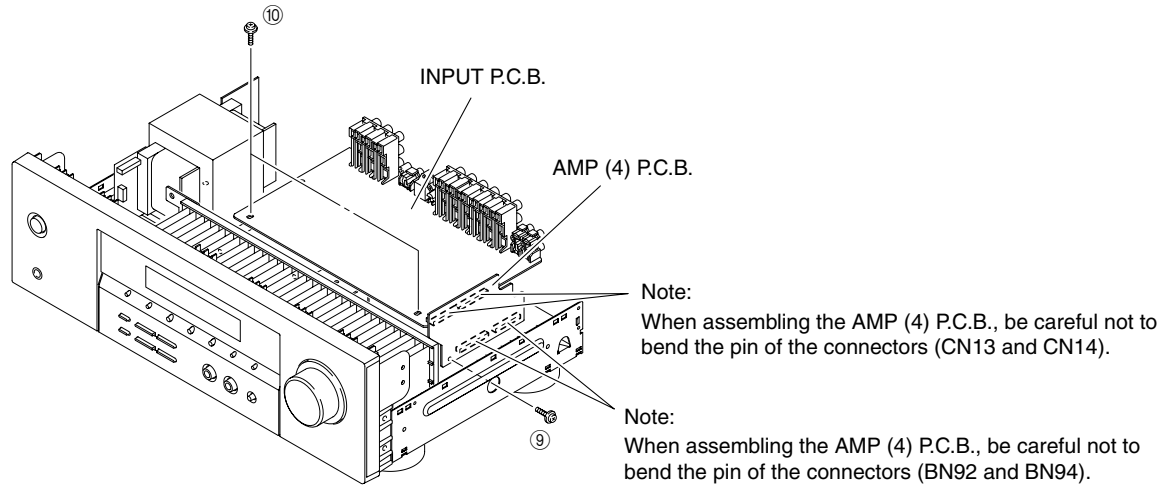

Fig. 5
4. Removal of INPUT and AMP (4) P.C.B.s
- a. Remove 1 screw (9) and 2 screws (10). (Fig. 5)
- b. Remove INPUT and AMP (4) P.C.B.s. (Fig. 5)